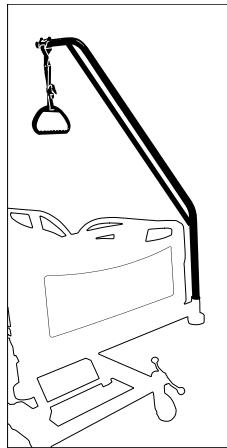

Figure 25 – Installing the lifting pole
1. Insert the lifting pole into one of the two accessory sleeves (Figure 25).